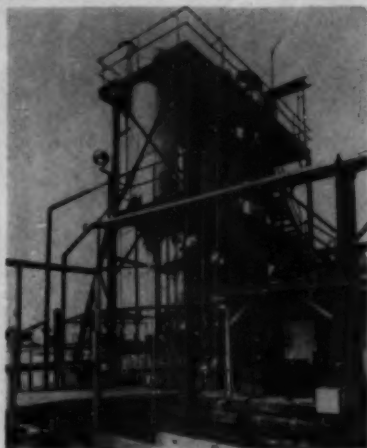

Figure 5. Long tube vertical test installation at Harbor Island, North Carolina.
such as the walls of the evaporator tubes. A test installation built by Whiting Corp., at Harbor Island, North Carolina, to prove out this system is shown in Figure 5. It consists of two forced circulation (FC) evaporators connected to a small (7-tube) long-tube vertical evaporator. The FC evaporators are used to concentrate the sea water to any desired concentration, and to prepare the sludge for the scale-control tests.